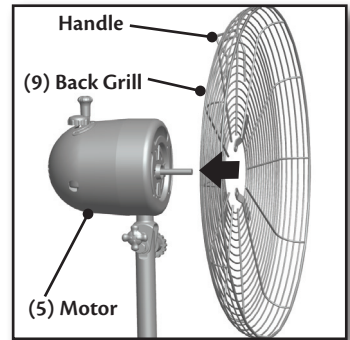

Figure 11.
1. Place the back grill against the motor housing(5), Figure 11., and line up the 4 tabs on the back of the grill(9) to the 4 screws holes on the front of the motor.